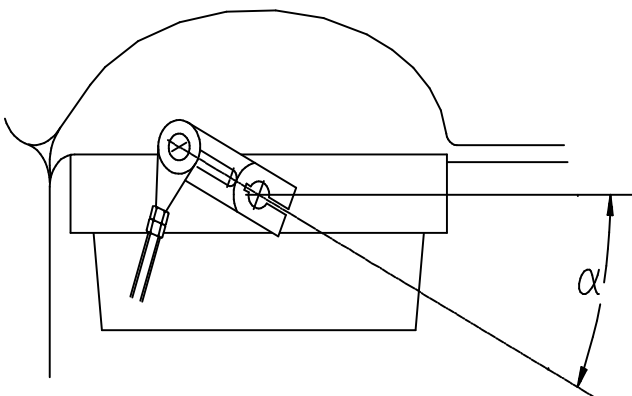

Fig. 8-9. Butterfly Valve
(see Fig. 8-9.)
- Start flame depends on the position of the valve throttle which is to be moved a few degrees with Respect to the horizontal axis (as shown by the Fig. 8-9.)